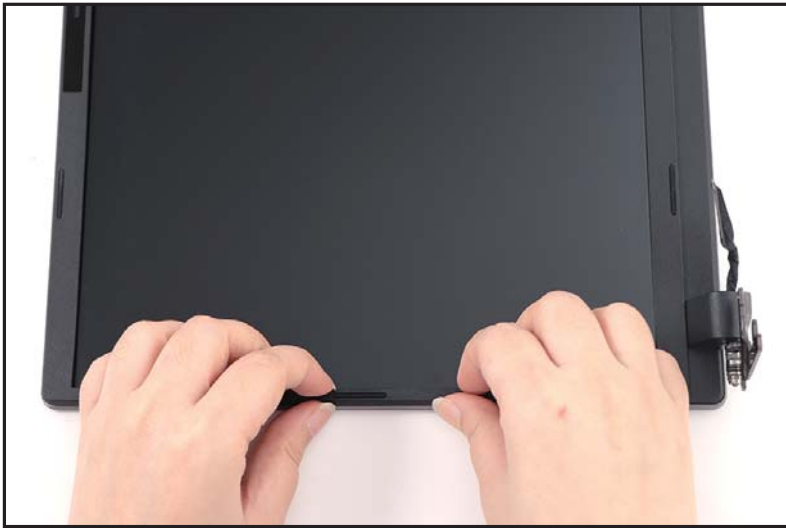

Figure 1-51. LCD Bezel Removal
3. Continue prying along the left side of the bezel (Figure 1-51).